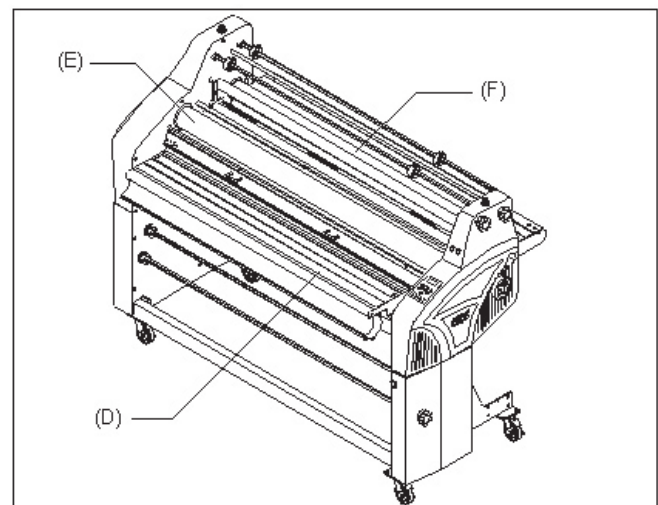

Fig 15
D. FEED TABLE: (Figure 15) The Feed Table is used to position items for lamination. The laminator will operate only when the Feed Table and Feed Table Latch are properly installed.
E. HEAT ROLLERS: (Figure 15) Silicone rubber coated steel tubes heat the laminating film and press the heated film to the items being laminated. Heat is provided by an internal heating element. The heat rollers are motor driven for ease of loading new film.
F. PULL ROLLERS: (Figure 15) The pull rollers, located at the back of the laminator, are motor driven. They simultaneously pull the film and improve the quality of the laminated item.